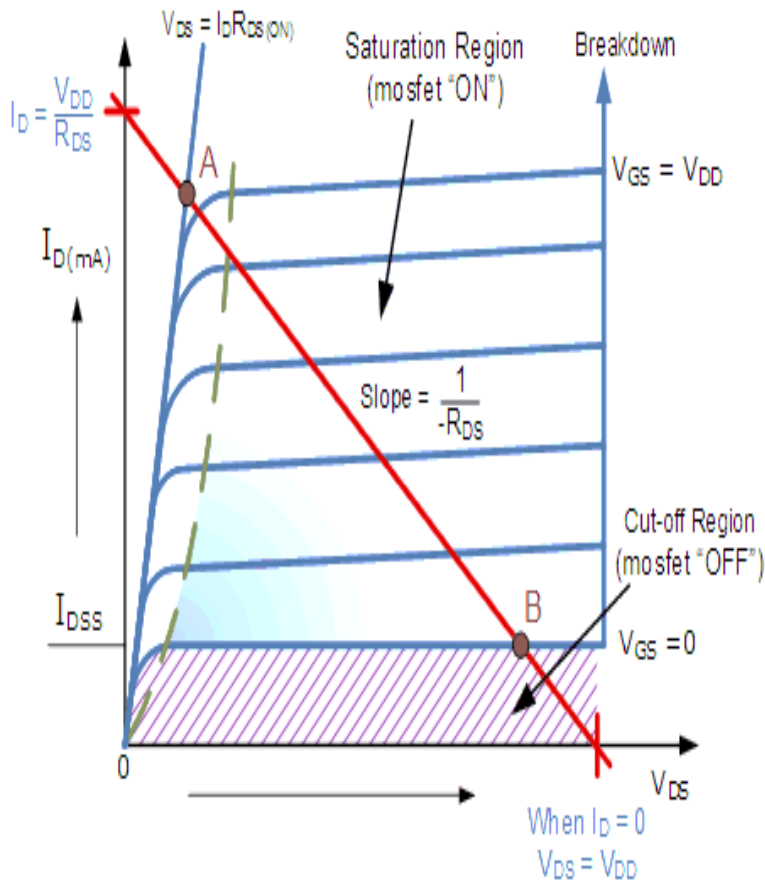

Figure 4.16: MOSFET's I-V Characteristics
- The operation of the E-MOSFET can best be described using its I-V characteristics curves shown in Figure 4.16.